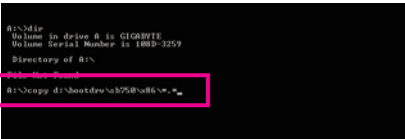

Figure 1
- For the AMD SB710, type (Figure 1): (Note)